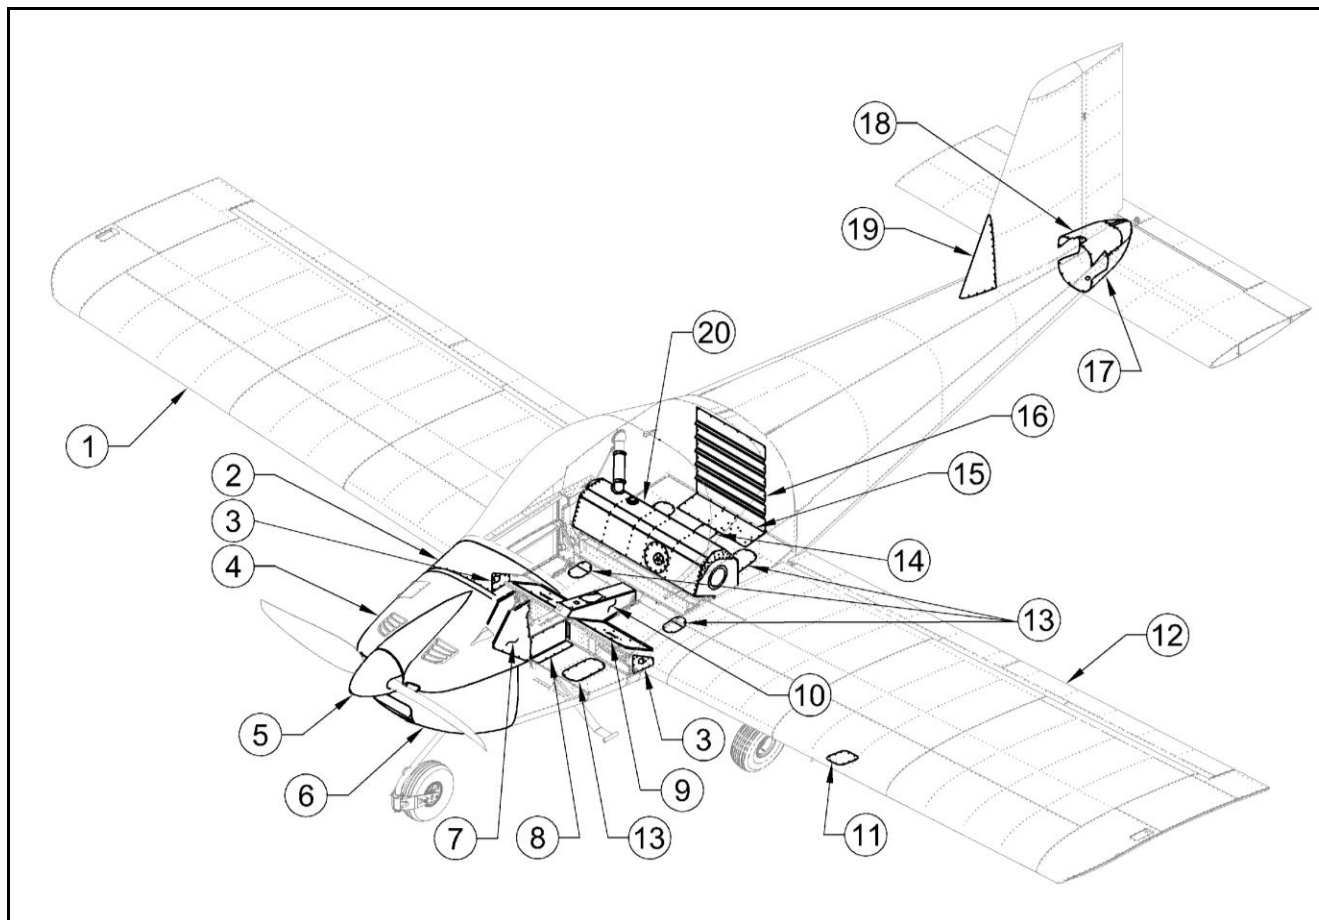

Figure 4: Remove for inspection
2. Remove all access covers, inspection plates, fairing and cowling shown in **Figure 4**.